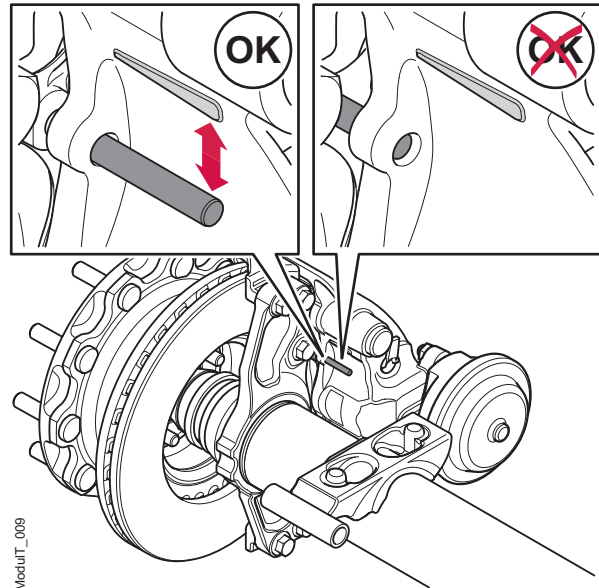

Figure 14. Inspection of the Visual Wear Indicator
1. Inspect the position of the Visual Wear Indicator (VWI), as located and shown in figure 14. This check can be done with either the wheel fitted or removed.